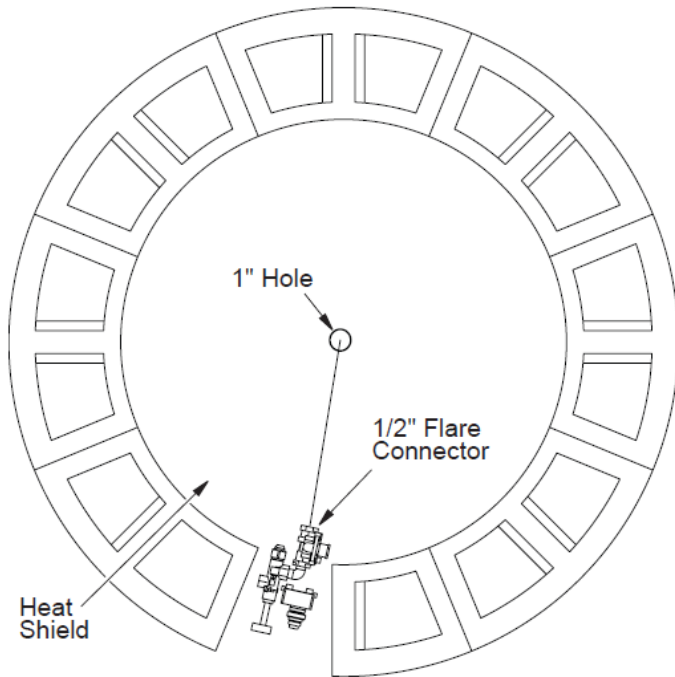

Figure 5 - Gas Line Planning
The supply line will need to run vertical through the heat shield in the center of the fire ring up to where you will connect it to the gas regulator using a 1/2" flared flex line (not included). There is a 1" hole in the heat shield for the gas line (See Figure 5).
9. Connect incoming gas line to regulator shown in Figure 5 page 8 before placing burner system into place.